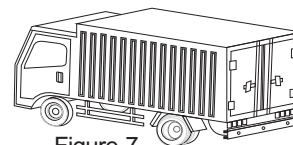

Figure 7
② When the vehicle is installed with or uses electric wires or antennae with a super high power output, they will cause same-frequency interference if the frequency of the sound wave they produced (or its harmonic wave) is 58KHZ, as shown in Figure 7